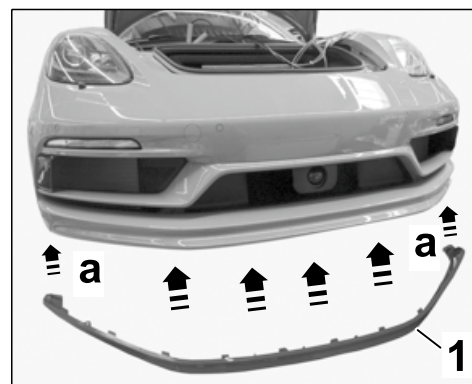

Figure 30
- 5.13.1 First insert the spoiler lip into the front apron at the outside  $\Rightarrow$  *Figure 30* -arrows a- with the help of an assistant and then clip it into the front apron, starting from the outside to the center  $\Rightarrow$  *Figure 30* -arrows-.